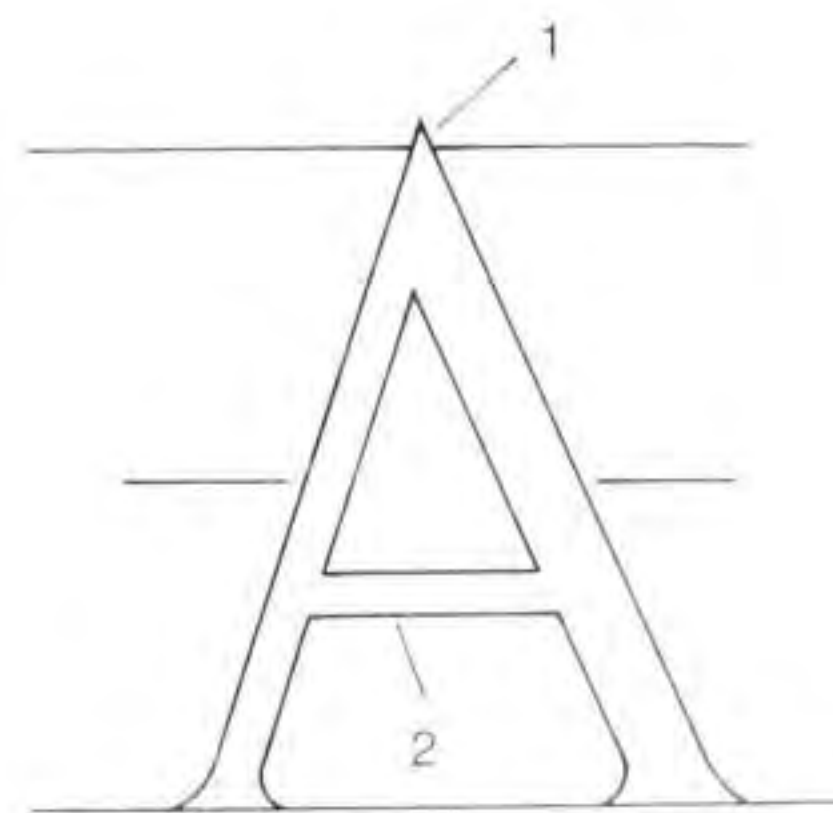

Fig 6.2 Features of the letter A.
See Fig 6.2. The point extends slightly over the cap line, about one half unit (1). The apex of the junction lies on the vertical mid-line of the letter.